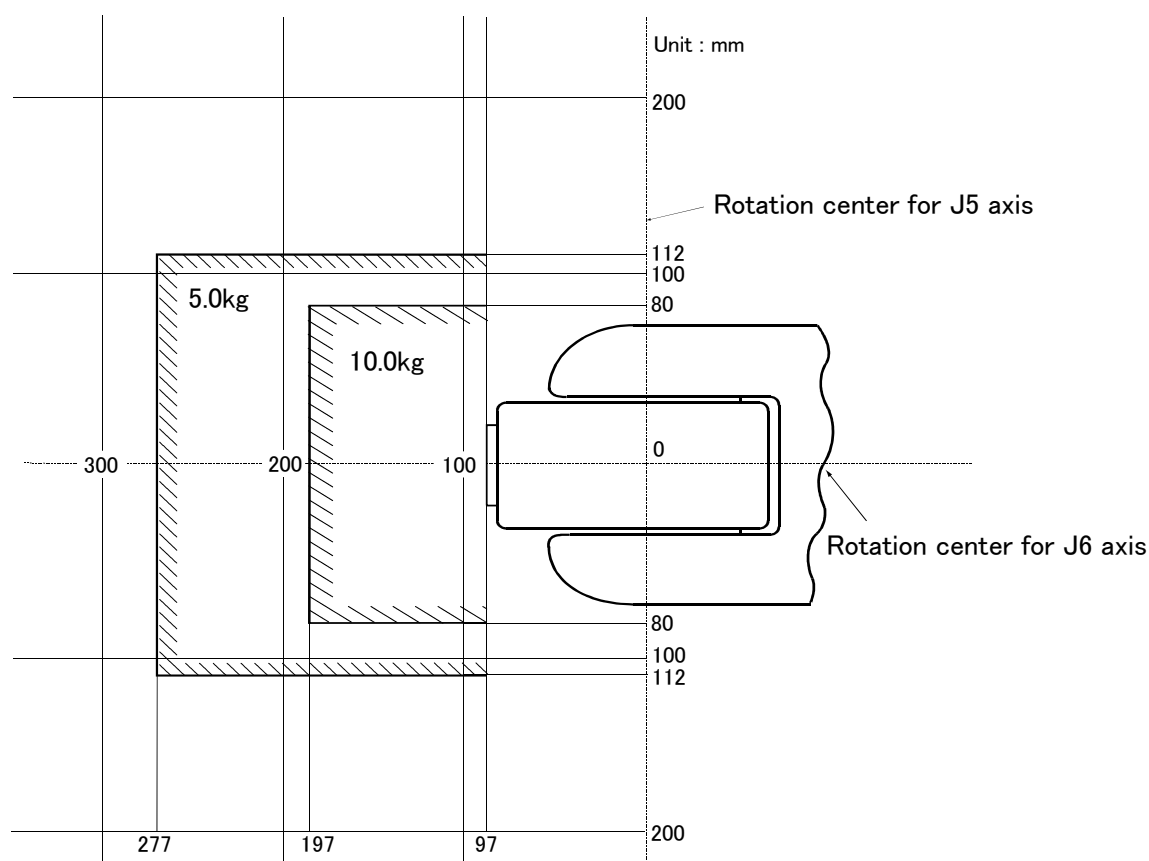

Fig.2-1 : Position of center of gravity for loads (for loads with comparatively small volume):RV-12SQ/12SQL Series
- (1) The tooling should have the value less or equal than the smaller of the tolerable inertia and the tolerable moment found in Page 7, "Table 2-1 : Standard specifications of robot"
- (2) Fig. 2-1 shows the distribution dimensions for the center of gravity in the case where the volume of the load is relatively small. Use this figure as a reference when designing the tooling.
- (3) When the load is not mass, but force, you should design the tooling so that it does not exceed the value for allowable moment described in Page 7, "Table 2-1 : Standard specifications of robot"